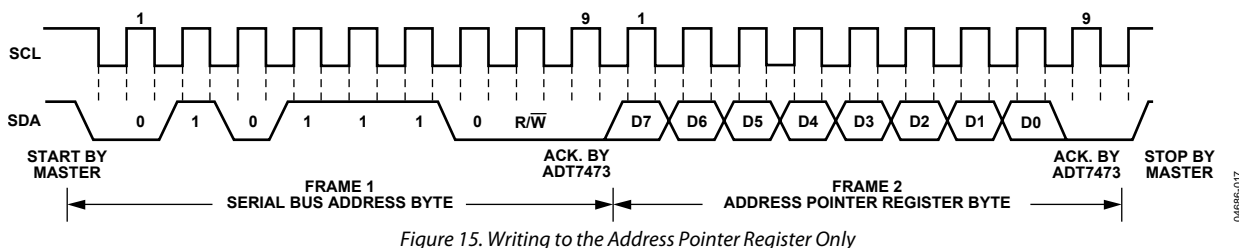

Figure 15. Writing to the Address Pointer Register Only
- If the ADT7473's address pointer register value is unknown or not the desired value, it must first be set to the correct value before data can be read from the desired data register. This is done by performing a write to the ADT7473, but only the data byte containing the register address is sent, because no data is written to the register. This is shown in Figure 15.